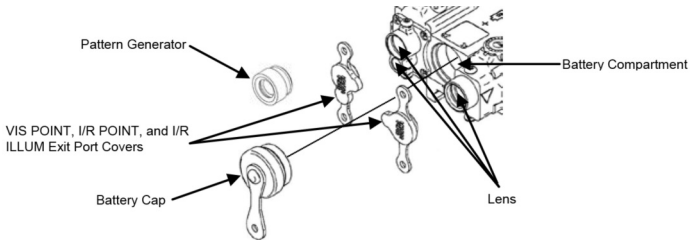

Figure 1. Lens Cleaning
1. Remove Pattern Generator (Figure 1) (if used) or VIS POINT, I/R POINT, and I/R ILLUM Exit Port Covers (Figure 1) IAW WP 0014.
2. Using a dry lens cleaning tissue, brush off all loose dirt from the lenses (Figure 1). Excessive force may result in scratching the lenses (Figure 1).
3. Soak a folded lens cleaning tissue with lens cleaning compound and lightly wipe the lens (Figure 1) slowly. Wipe in a circular motion beginning in the center of the lens (Figure 1) and ending at the edge. After one circular stroke, discard the tissue. Repeat this procedure until the lens (Figure 1) surface is clean.
2. Inspect the Battery Compartment (Figure 1) for dirt, dust and corrosion. Dirt or debris that cannot be shaken loose from the Battery Compartment (Figure 1) may be removed using a wiping rag or disposable applicator.
3. Clean the threaded portions of the Battery Cap (Figure 1) and Battery Compartment (Figure 1) using a wiping rag. If necessary, use a disposable applicator dipped in isopropyl alcohol to gently clean the battery contacts on the inside of the Battery Cap (Figure 1).